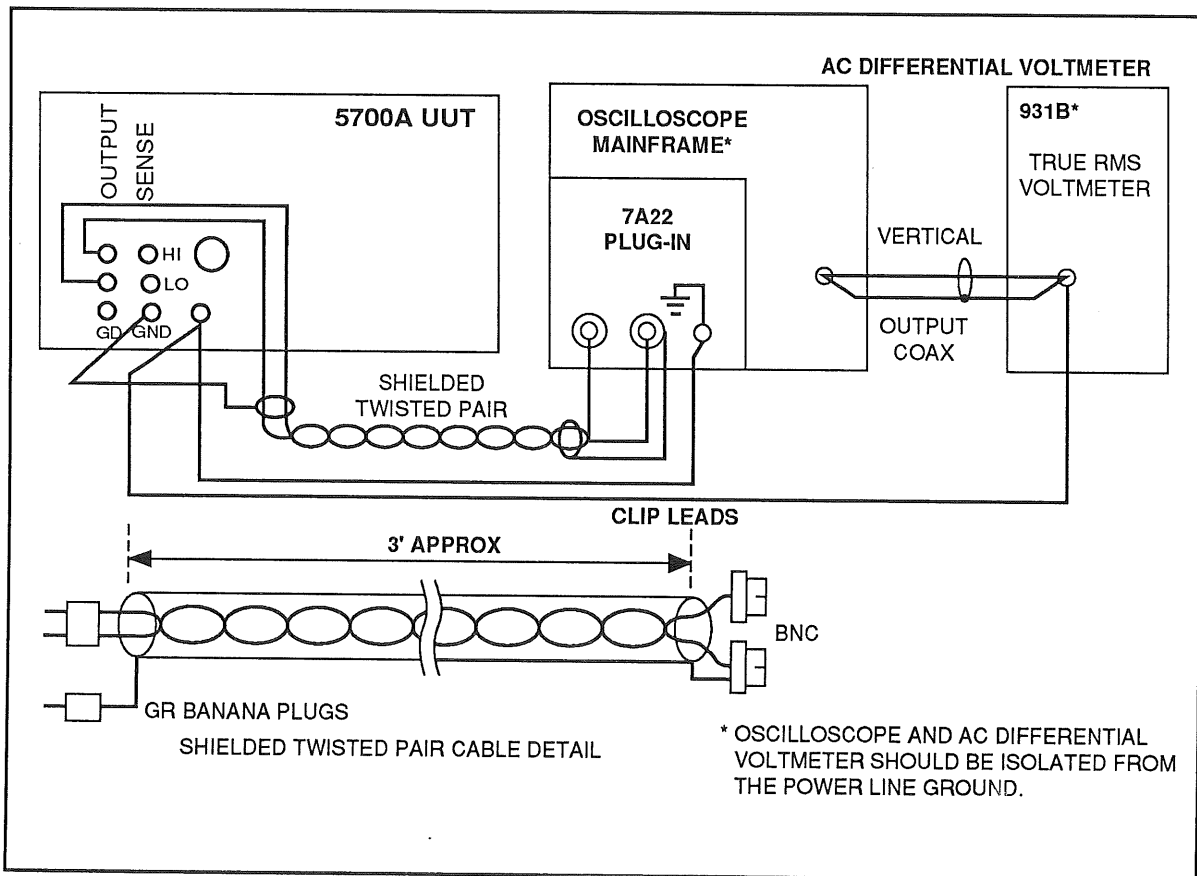

Figure 3-20. DC Voltage Output Noise Test
1. Connect the equipment as shown in Figure 3-20.